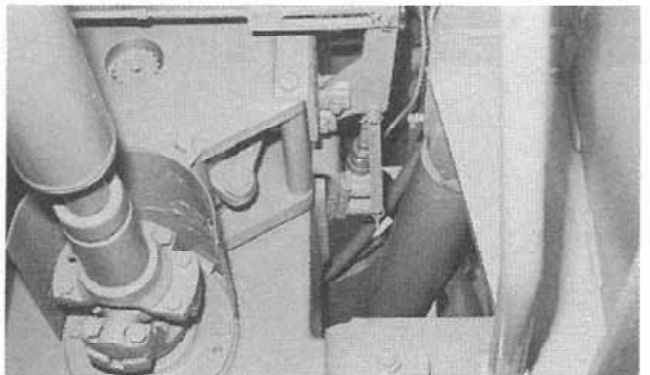

Figure 14:
15. Install the slave cylinder and mount bracket on the inner brake plate/bearing cap (Fig. 14).